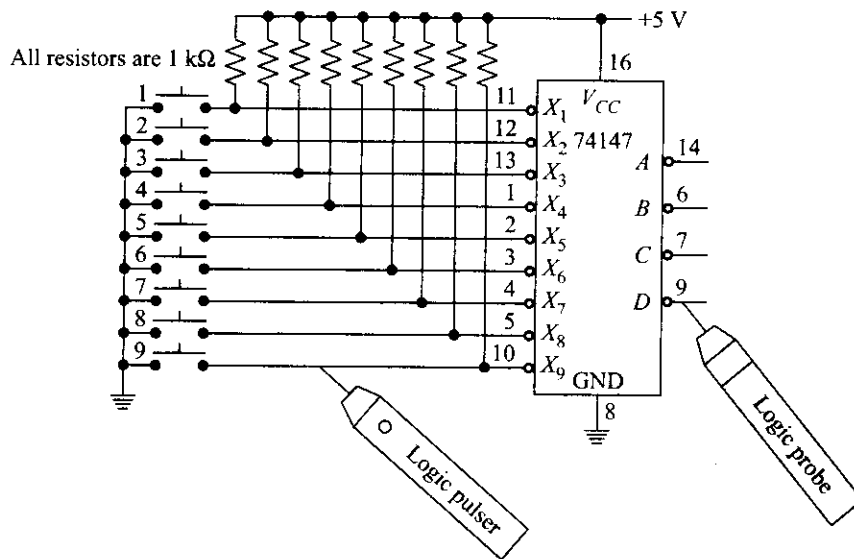

Fig. 5.9
5.32 Figure 5.9 shows the decimal-to-BCD encoder discussed in Sec. 4.6. Answer the following questions:
- 5.33 The push-button switch of the logic pulser shown in Fig. 5.9 is pressed. Suppose that the logic probe is initially dark and remains dark. Indicate which of the following are possible sources of trouble: